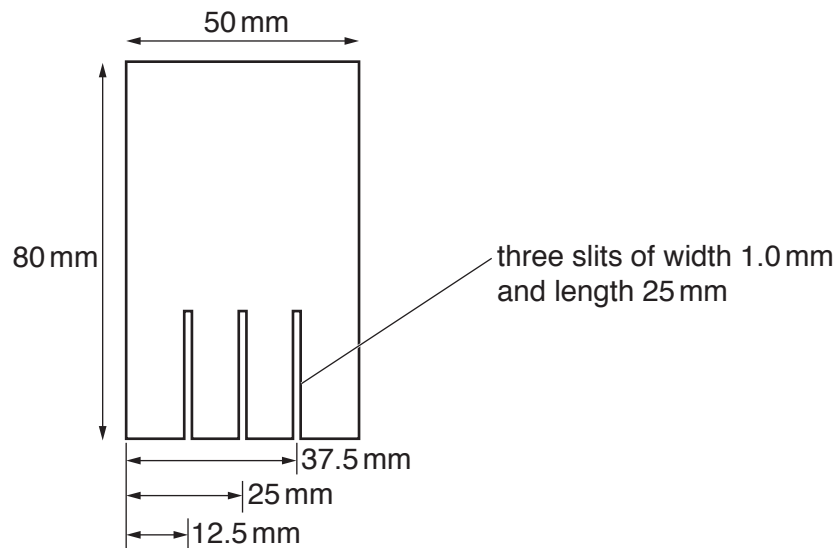

Fig. 3.2
2. A slit plate may be found in a ray box kit if one is available but it must have the dimensions shown in Fig. 3.2. Alternatively, the plate should be cut from a piece of rigid card into a rectangle of length 80 mm and width 50 mm. Slits of width 1.0 mm and length 25 mm should be cut into the card at 12.5 mm, 25 mm and 37.5 mm as shown in Fig. 3.2.